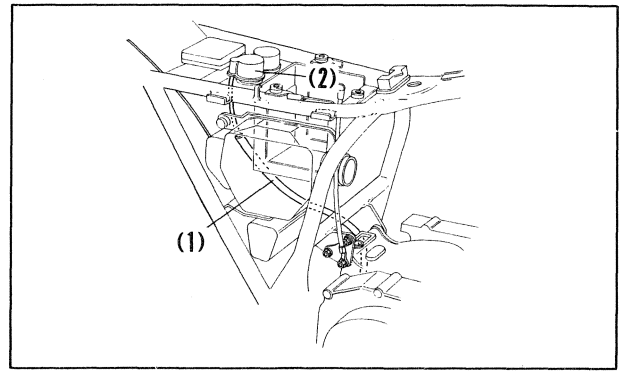

Fig. 4-4 (1) Starting motor cable
4. Route the starting motor cable as shown in Fig. 4-4 and connect it to the starter magnetic switch.